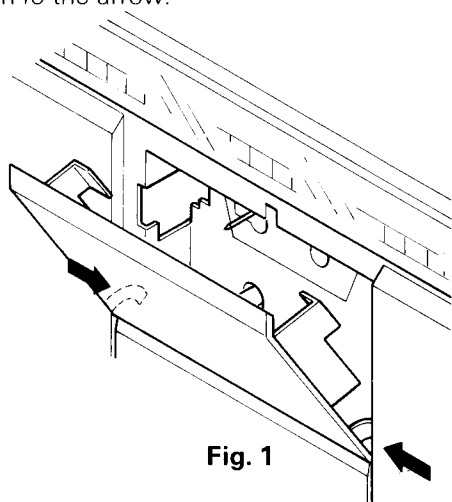

Fig. 1
1. Removing cassette compartment lid (Fig. 1)